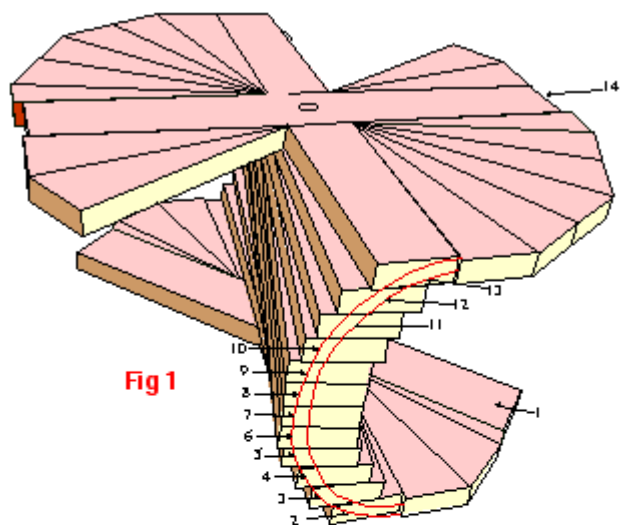

Fig 1
1. Saw to length and dress 4 sides of the 14 lengths of 3' 3 1/2"x 5"x 1 3/4". These lengths are shown and numbered at Fig 1. 1 - 14
11. Now disassemble the spiral, mark on the waste lines, and saw to waste where appropriate. Note that when clamping the spiral together, which is done in sections, the clamp jaws will require the square edge of the boards to get a grip for tightening. Look at the drawing Fig 1 and plan where you will position the clamps ahead of time.